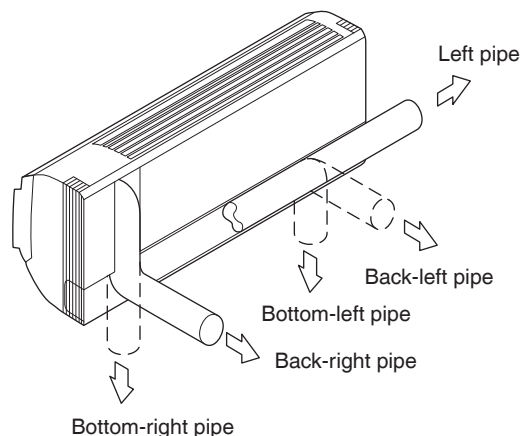
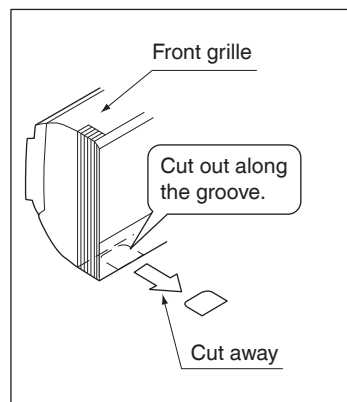

Fig. 3
Fig. 4
(1) Open the piping through-hole.
- The refrigerant pipe and drain pipe can be routed out in one of 5 directions: left, bottom-left, back-left, bottom-right, and back-right. (Refer to Fig. 3)
- Using the paper pattern for installation (3), choose where to route the piping out of the unit, and drill a through-hole ($\phi 3\text{-}1/8"$ ($\phi 80$)) in the wall. Open the hole so that there is a downward slope for the drain piping. (See "6. DRAIN PIPING WORK")
(2) Attach the installation panel (1) to the wall.
- Check the location for the hole using the included paper pattern for installation (3).
- Temporarily attach the installation panel (1) at the temporary-securing position on the paper pattern for installation (3) and use a level to make sure the drain hose is either level or tilted slightly downward.
- Secure the installation panel (1) to the wall using either screws or bolts.
- If using the attachment screws for the installation panel (2), attach using at least 4 screws on either side, for a total of 9 screws of the recommended installation cleat position on the included paper pattern for installation (3).
(3) If using the left, bottom-left, or bottom-right positions for the piping, cut out the through-hole for the piping in the front grille. (Refer to Fig. 4)